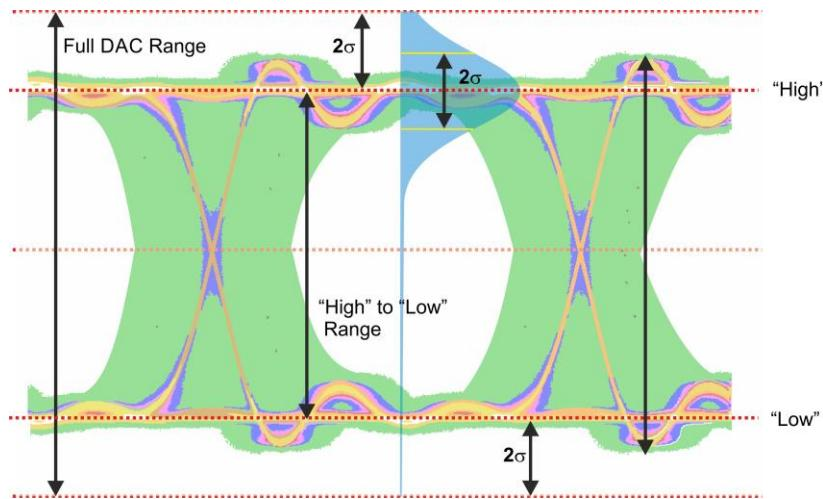

Figure 26: Clipping and noise amplitude
- **Ampl(rms):** Root-mean-square amplitude for noise is set as a percentage of the reference “low” to “high” excursion. Reference “low” and “high” amplitudes correspond to the final, steady level after a long run of consecutive “low” or “high” states. These levels are not influenced by any low-pass or de-emphasis filters applied to the waveform (see Figure 26), so it is used to establish an absolute reference for relative amplitudes.
- **Crest Factor:** This parameter is expressed in dB relative to the rms amplitude of the noise. If the combined waveform (signal + noise) goes beyond the valid lower and upper limits, samples are clipped to the corresponding limit. The upper limit can be calculated by adding the Nominal “high” value and an additional headroom resulting from the Ampl(rms) parameter corrected by the Crest Factor parameter. The lower limit can be symmetrically calculated in a similar way from the Nominal “low” level (see Figure 26).